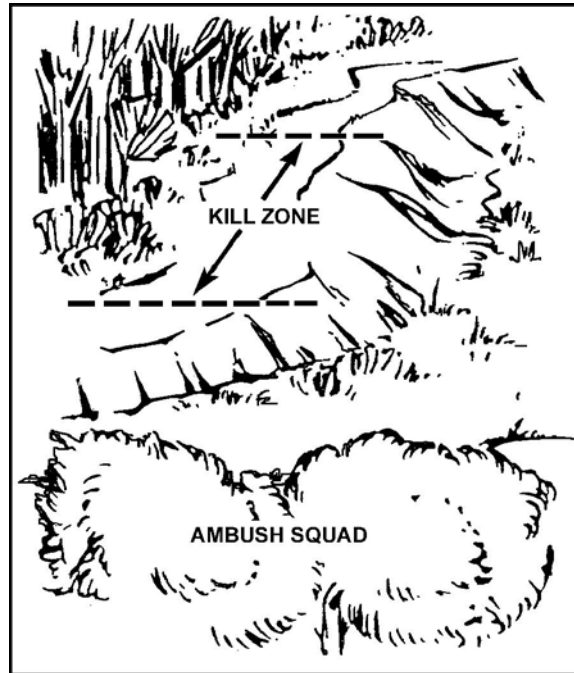

Figure 2. Kill zone in difficult terrain.
- b. The terrain makes it difficult for other armor vehicles to bypass a destroyed vehicle and assault the ambush squad (Figure 2).